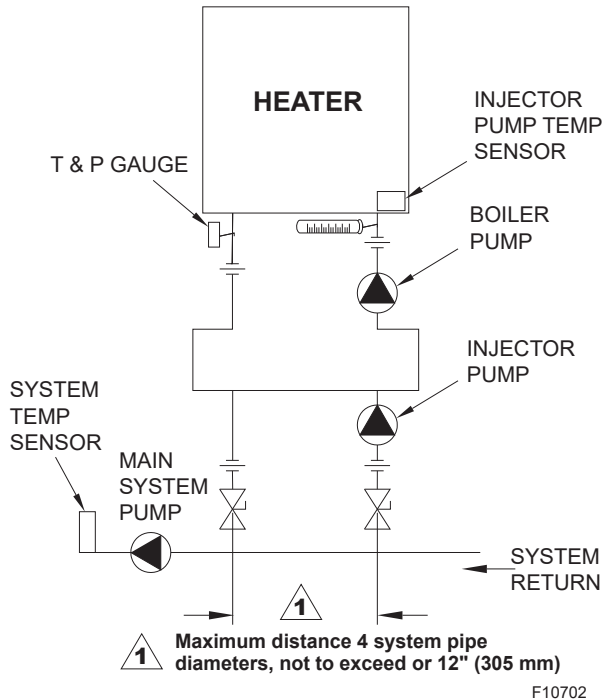

Figure 10. Cold Water Run
**NOTE:** For automatic temperature adjustment, a Cold Water Run (CWR) system can be used instead of a manual bypass. See Figure 10.